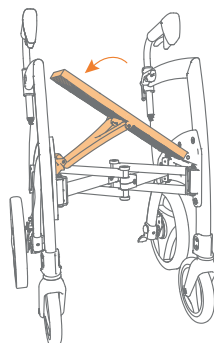

Figure 15: Push the seat down till you hear a 'click'.
- b. Push the seat down until it clicks into place. Important: the seat is not secured until you have clearly heard it 'click' (**Figure 15**).